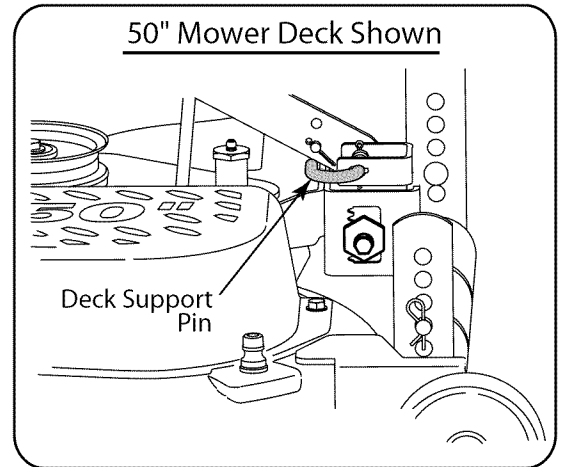

Figure 23
4. Looking at the cutting deck from the left side of the tractor, locate the deck support pin on the rear left side of the deck. See Figure 23.